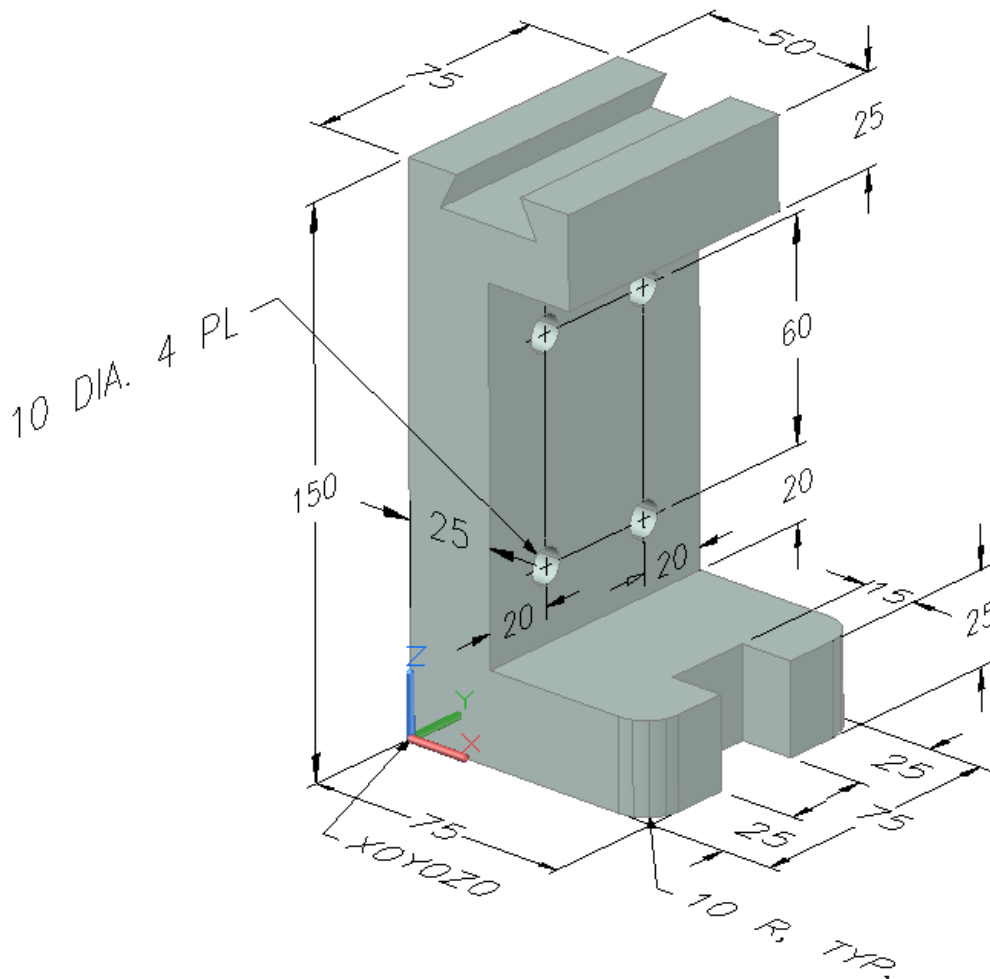

Figure Step 4A
Step 4 Draw a wireframe model of the object. (Figure Step 4A, 4B, and 4C)